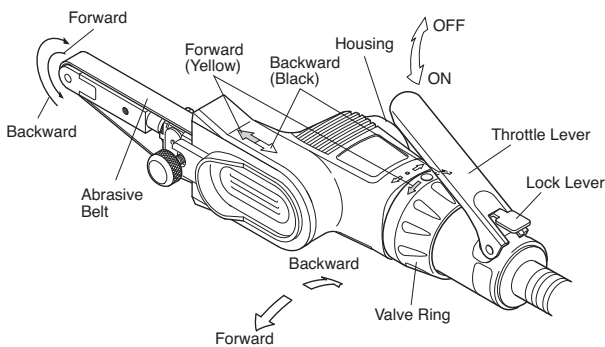

Fig. 2
**4-1. Start and Stop (Fig. 2)**
- (1) Make sure the Throttle Lever is in the OFF position and connect air supply hose to the Cupla plug on the tool.
- (2) Only when the Throttle Lever is in the OFF position, you should select the belt rotating direction by turning the Valve Ring. The arrow on the housing and that on the Valve Ring have color coordination for your easy perception. Turn the Valve Ring to the end until stop.
- (3) To start, release the Lock Lever and press the Throttle Lever down.
- (4) To stop, remove your finger off the Throttle Lever, it will automatically turn to original OFF position.